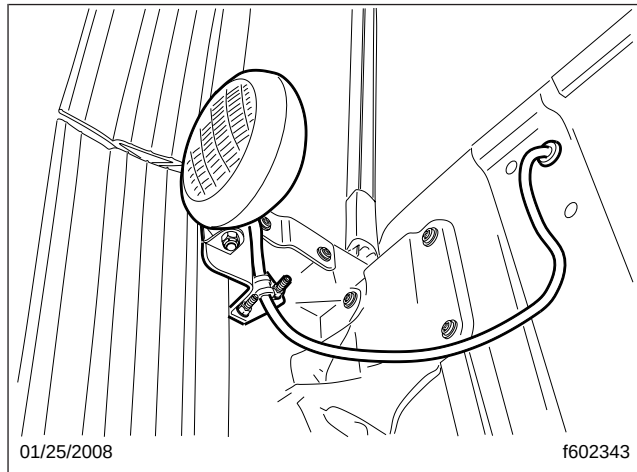

Fig. 1, Exterior Utility Lamp
3. Remove the bolts, nuts, and washers that attach the exterior utility lamp (Fig. 1) to the side extender. Remove the lamp.